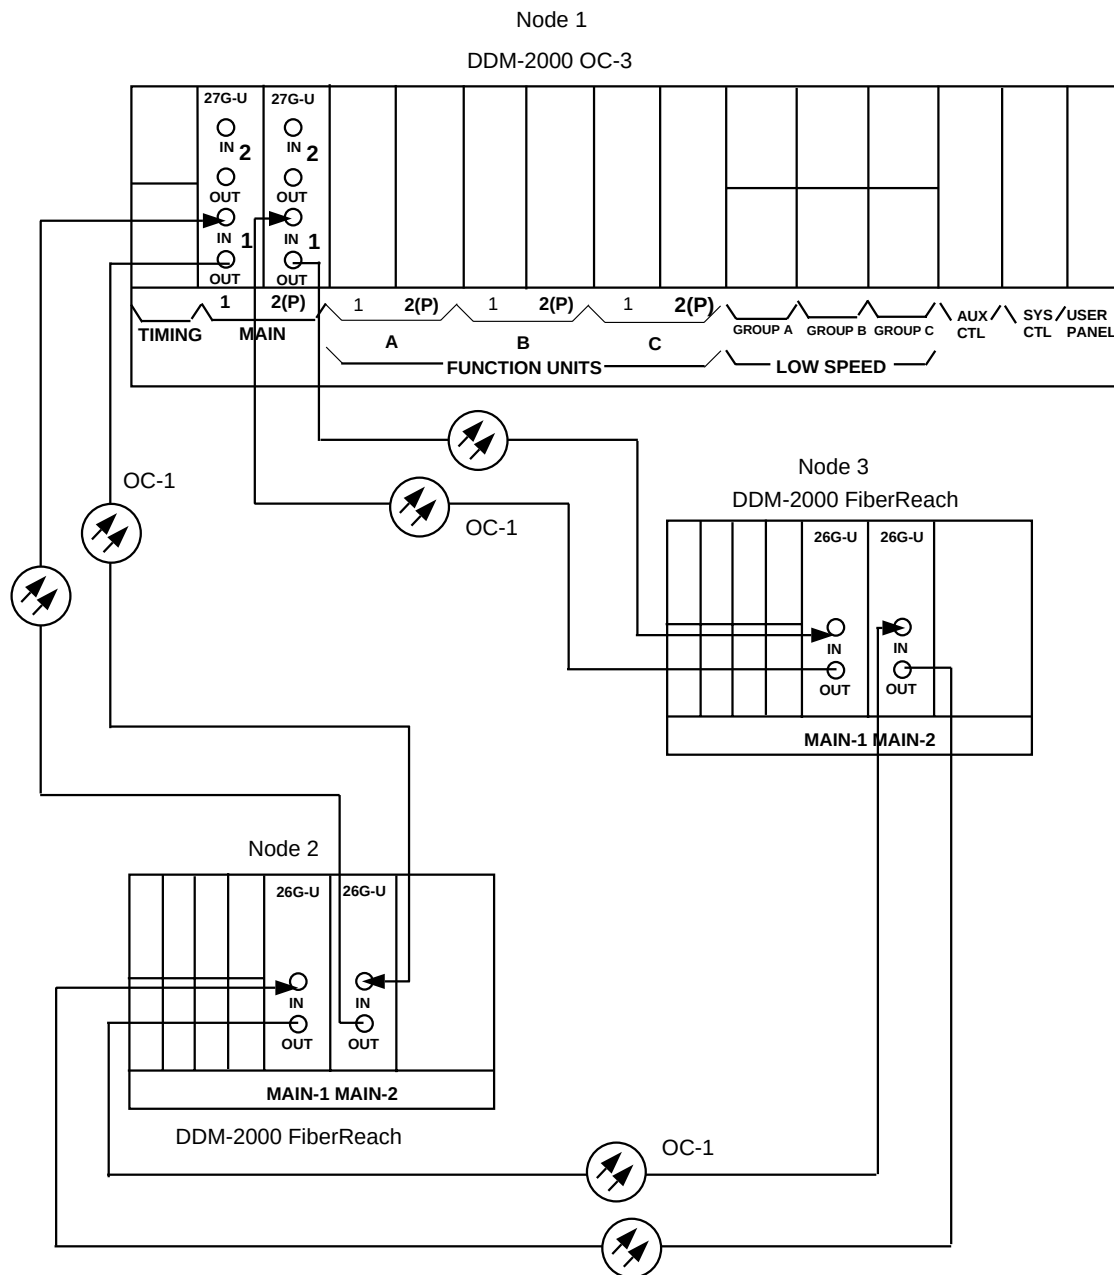
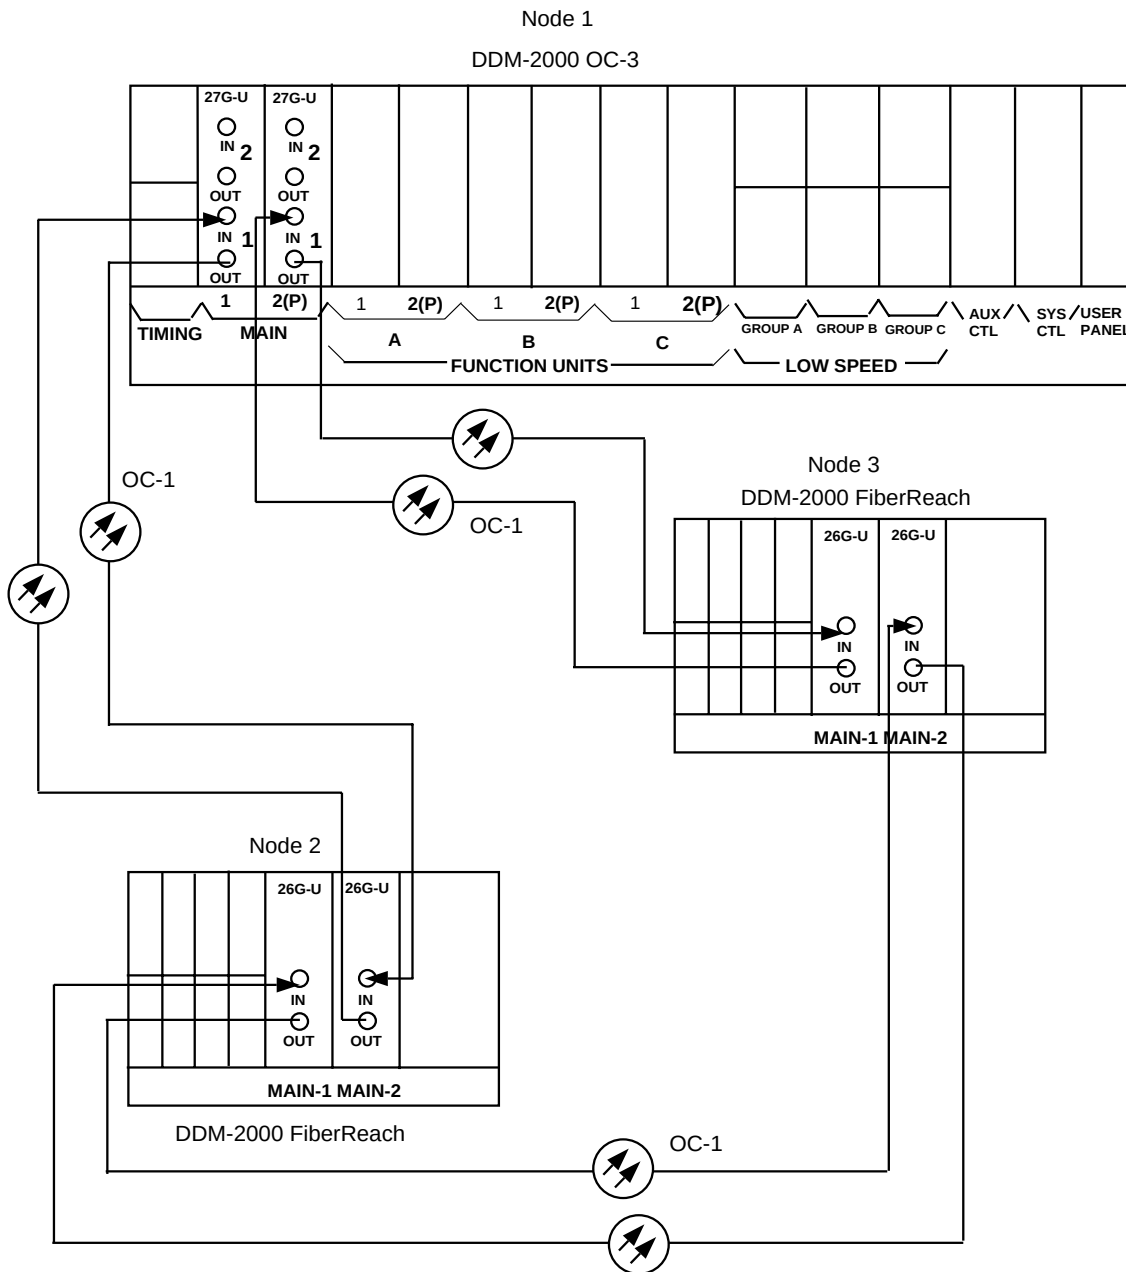

Figure 4. Example of Stand Alone OC-3/OC-1 Cross-connections
Figure 5. Example of Stand Alone OC-3/OC-1 Cross-connections
Cross-connections consist of drop and pass-through connections. For example in Figure 4, drop connections are made at Nodes 1 and 2. Pass-through cross-connections are made at Node 3. In Figure 5, pass-through cross-connections are made at Node 1.
At all nonterminating nodes in the network, use the **ent-crs-vt1:** command to provision pass-through connections. [For example, in Figure 4, node 3, to make the DS1 pass-through cross-connection for channel m-1-1-1, use the **ent-crs-vt1:m-1-1-1,m-1-1-1:cct=twoway** command.
9. At the terminating (drop) nodes of the circuit being established, use the **ent-crs-vt1:** command to make the terminating cross-connections. For example, in Figure 4, at Node 1, if DS1 port #1, circuit pack #1 in **FUNCTION GROUP A** is cross-connected to VT1.5 channel #1, VTG #1, STS #1, OC1 line 2, then the command **ent-crs-vt1:a-1-1,m-2-1-1:cct=twoway** would be used to make the cross-connection. At Node 2 in Figure 4, the command **ent-crs-vt1:m-1-1-1,a-1-1:cct=twoway** would be used to make the cross-connection.